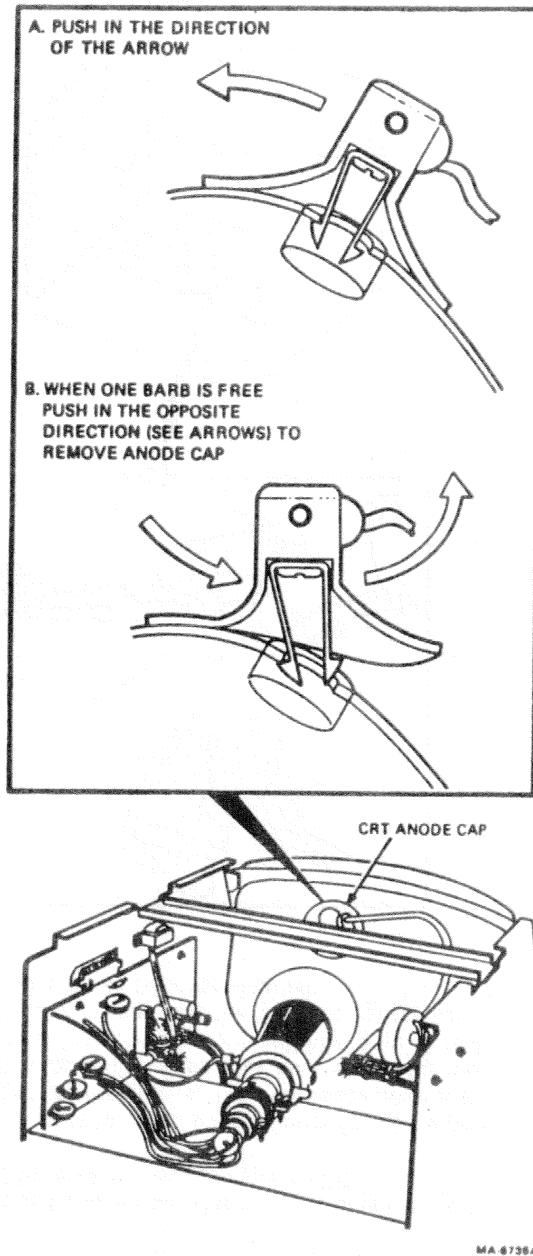

Figure 5-21 Removing Anode Cap
2. The connector holds itself in place with spring barbs in the depression of the tube (the anode socket). You must push against one barb, allowing the other side to clear the lip of the anode socket (Figure 5-21).